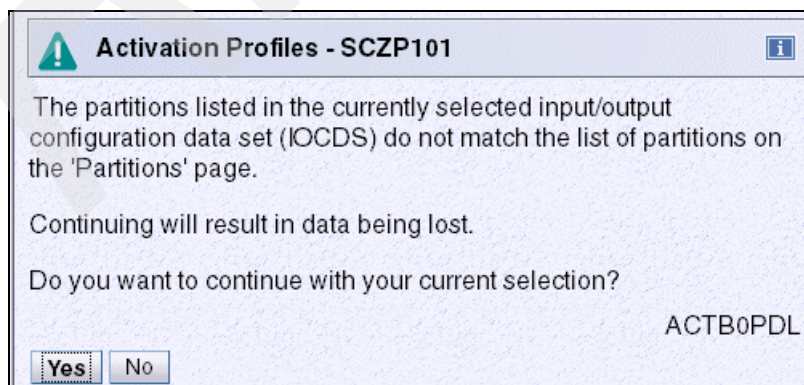

Figure 5-72 HMC - Activation Profiles (received when changing IOCDS)
8. Message ACTB0PDL is displayed; see Figure 5-72.